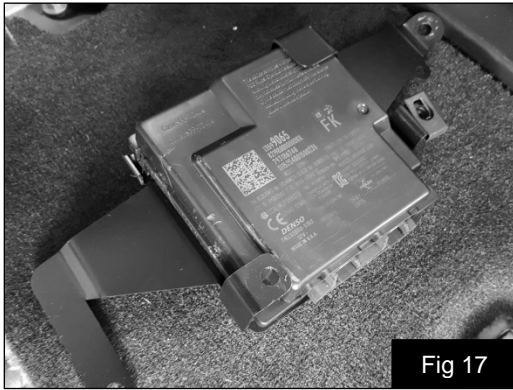

Fig 17
25. If equipped with two modules, slide the larger module into the relocation bracket first as shown in Fig 17